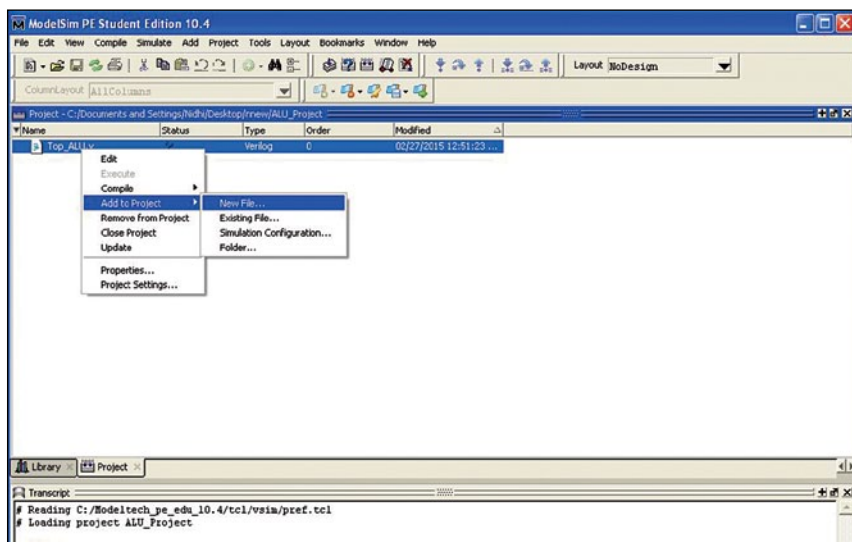

Fig. 7: Adding new files
9. Now, add relevant files as per the architecture, which includes arithmetic, logic, shift and MUX units. Add new files to Top_ALU project by right-clicking Top_ALU.v file. Select Add to Project -> New File... options as shown in Fig. 7.